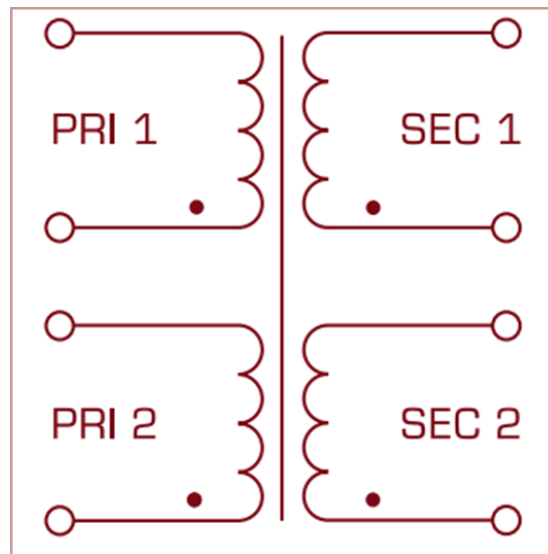

Figure 21. Schematic diagram of the power transformer.
1. Set the function generator to output the maximum amplitude of 5V at a frequency of 60 Hz. Make absolutely sure that the DC offset is set to 0, otherwise the transformer could be destroyed. Connect the output from the function generator to a primary coil of the power transformer. A schematic diagram of the transformer used in the lab is shown in Fig. 21. Connect the scope probe tip and ground lead across one of the secondary coils of the power transformer. Verify the transformer works by noting that the output is approximately $1/5^{\text{th}}$ of the input since this is a 5:1 step-down transformer. **(Photo)**
4. Connect the two primary coil windings in parallel on the breadboard. The schematic diagram of the transformer is shown in Fig. 21. The primary windings are labeled "0-115V" Be sure to observe correct polarity and connect the terminals labeled "0" together and the terminals labeled "115V" together. Connect the two red clips to the parallel windings.